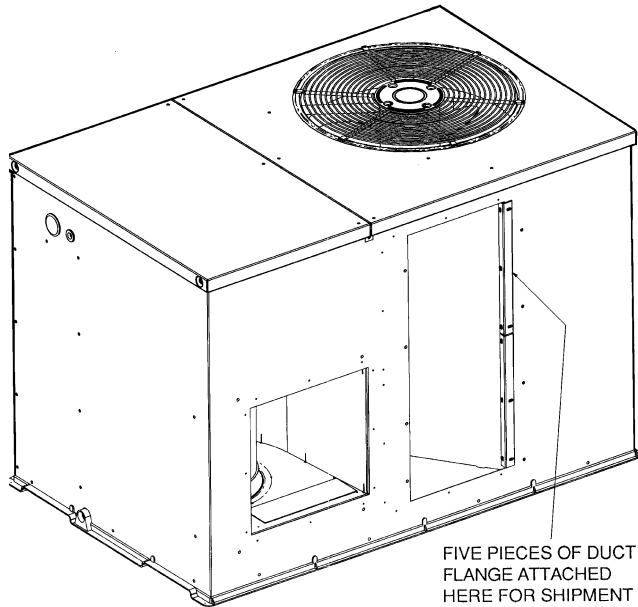

Fig. 9 — Shipping Location of Duct Flanges (Size 060 Only)
1. Five pieces of flange are shipped on the return air opening of the unit. Remove the flanges from the shipping position. See Fig. 9. Screws are field-supplied.